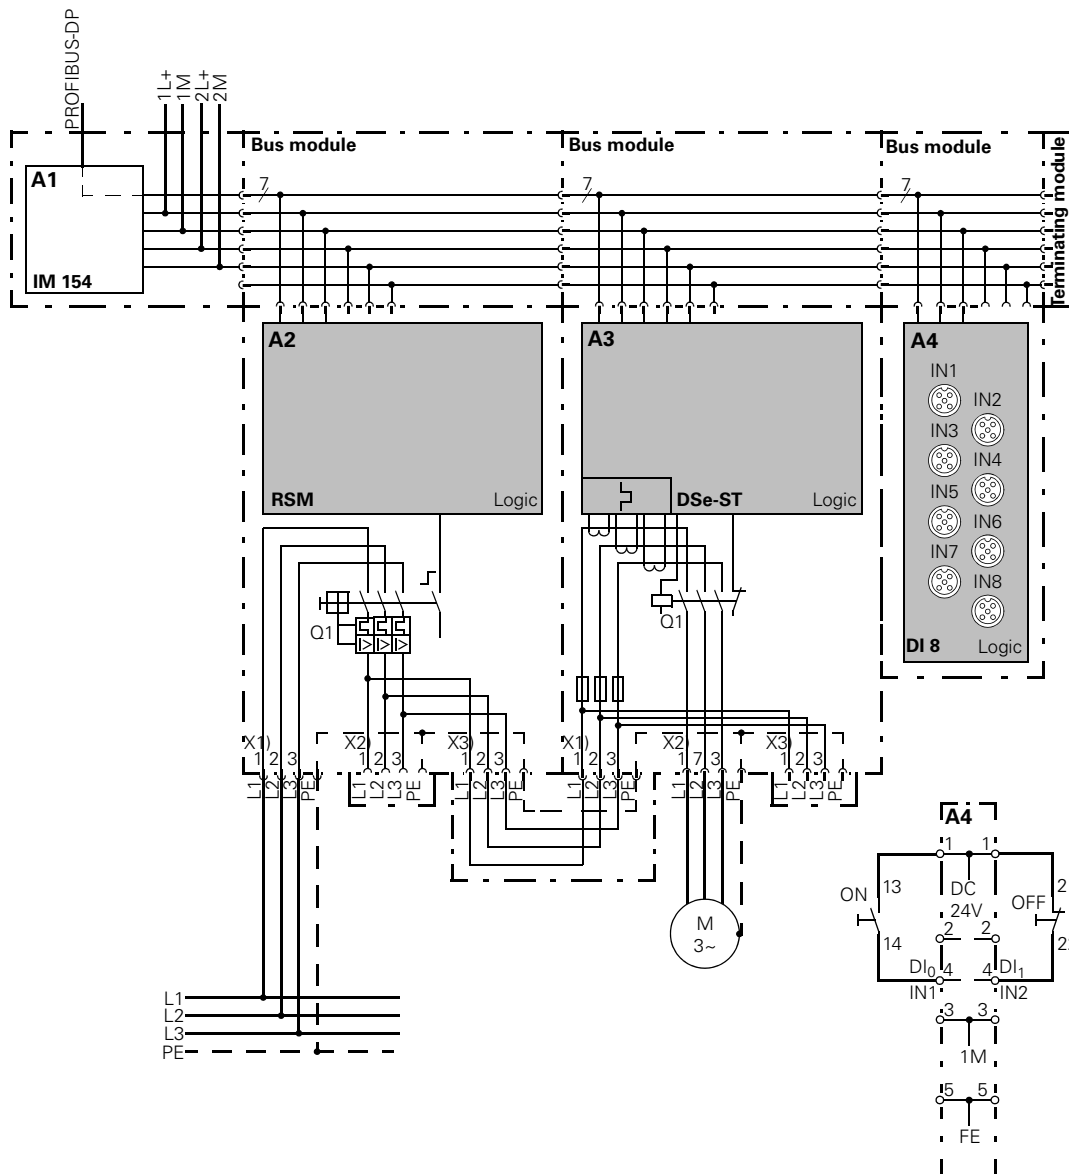

Figure 2-3: Circuitry for the example
2. Cable the ET 200pro as shown in figure 2-3. Only the external lines shown in bold should be connected. The functions are: